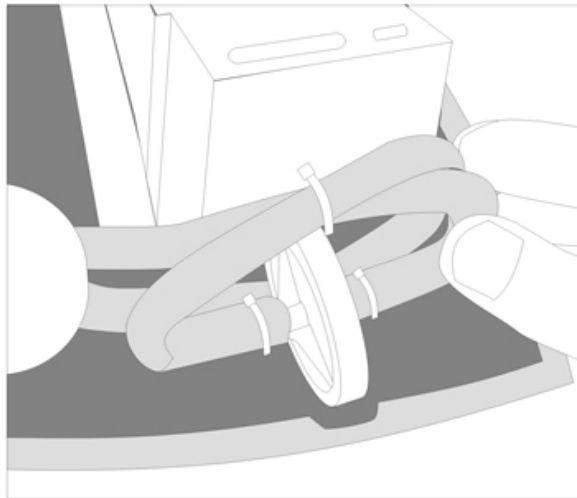

Figure 22: Installing the HEPA Filter.
4. Reconnect silicone tubes to the filter. Ensure that the feed tubes are not blocked, crimped or kinked upon completion of the installation or the unit will alarm for no/low oxygen flow after the warm-up cycle is complete. Route tubing as shown in Figure 22 below. Place HEPA filter into slot in case.
NOTE:	Route tubing as shown in Figure 22. Install cable ties loosely as shown.